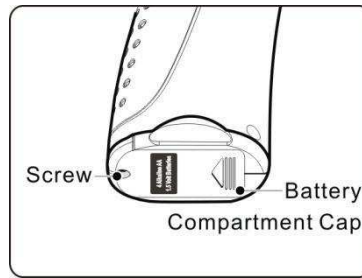

Fig. 4
- 1) Turn the handheld display unit upside down to expose the battery compartment cap and screw (**Fig. 4**).